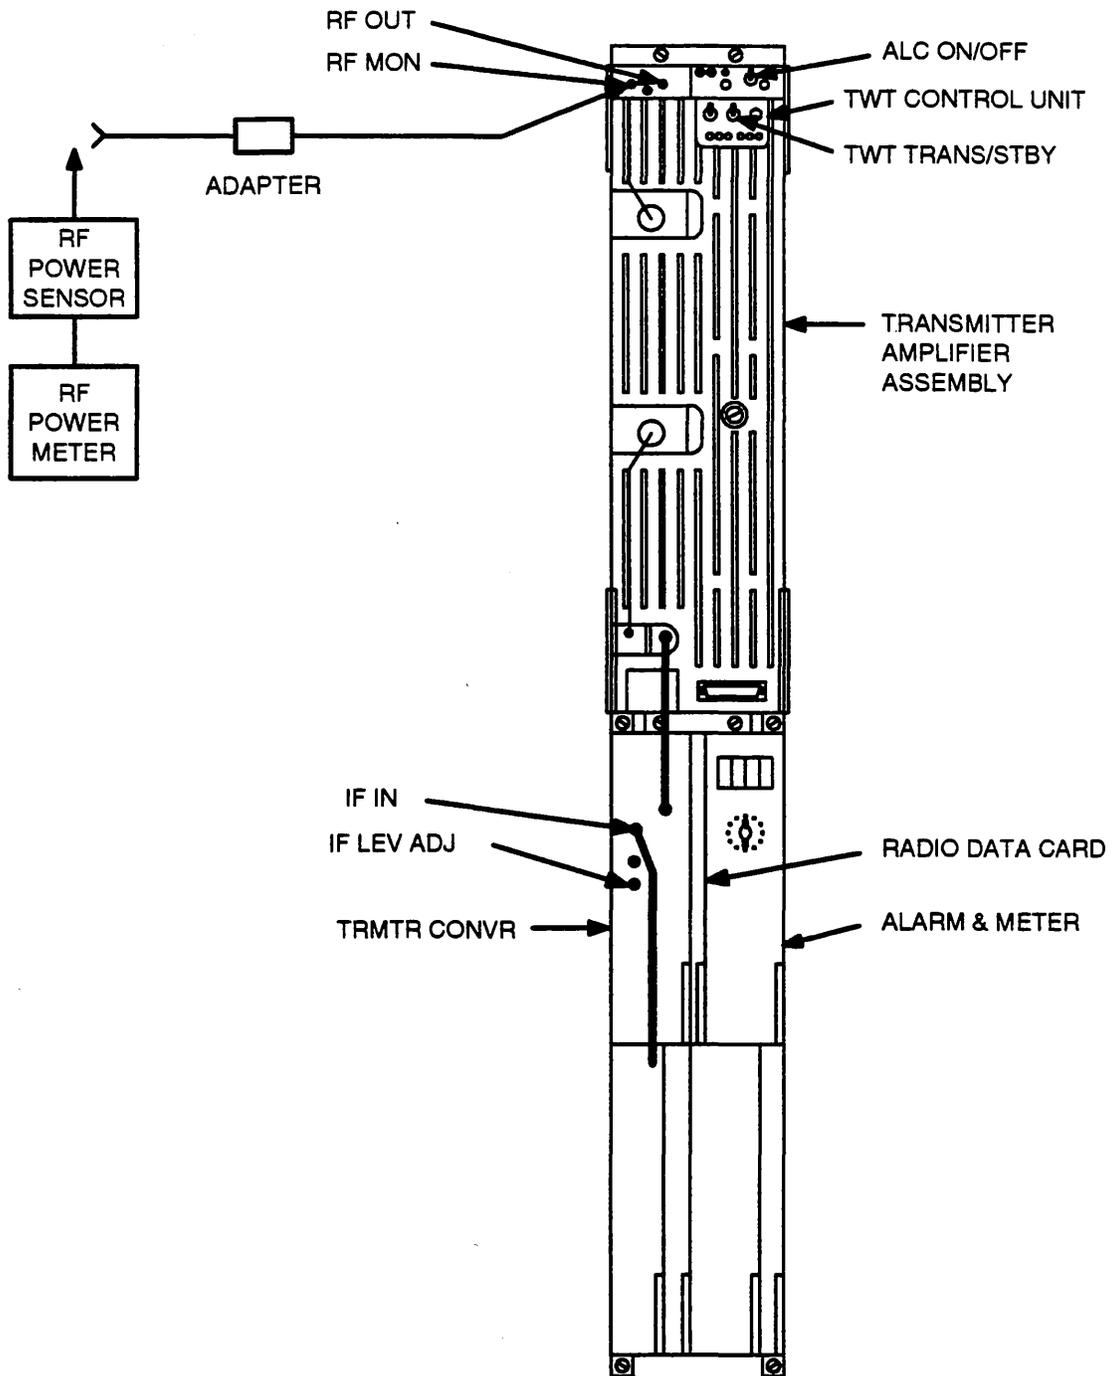

Figure 17-TWT Transmitter Output Power Test Connections
- Refer to Figure 17.
2. Condition the power meter to measure the expected power level (normally +6 to +12 dBm), and connect it to the RF MON jack. Refer to Figure 17. See the RADIO DATA CARD.